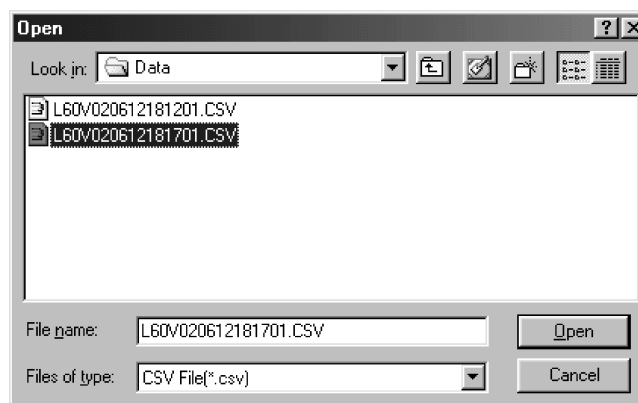

Fig. 37
4. Select the file containing the saved graph data that you want to view, and then click the **Open** button. (Fig. 37)